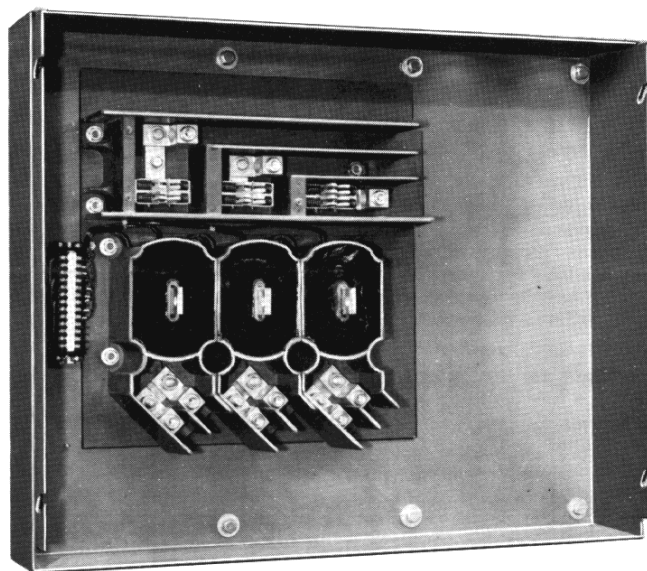

Figure 2. Wall Cabinet Pull Box
To mount the shallow (6-inch deep) pull box, figure 2, to facilitate the connection of line and load cables, separate the cabinet from the pull box. To do this first remove the low voltage current harness wiring from the terminal board on the rear of the pull box and the movable shutter assembly from the stationary assembly of the incoming line shutter box. Then remove four (4) screws (2 on each side) holding the cabinet to the pull box and separate.